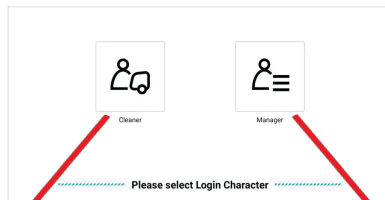

Figure 1: Not logged in status
- Cleaners please select **[Cleaner]**; administrators please select **[Manager]** (Figure 1 below)
- The notification at the bottom shows the scheduled missions that have not yet been executed for the day, which makes it convenient for users to change the corresponding cleaning parts according to the mission mode without logging in. (Figure 1).